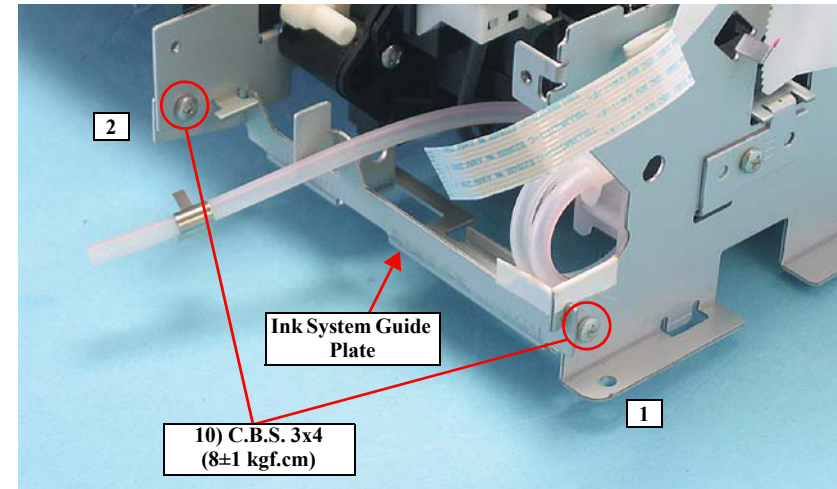

Figure 4-98. Removing the Ink System Guide Plate
- Tighten the screws in the order shown in Figure 4-98.